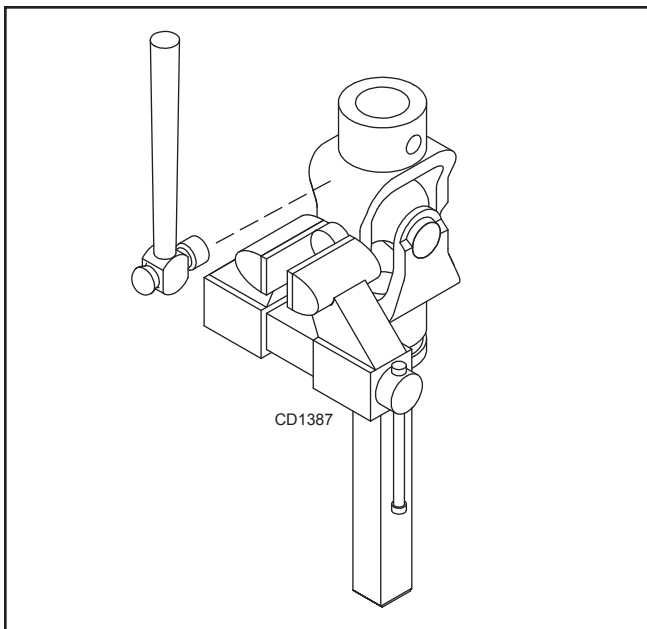

Figure 26.
3. Clamp cup in vise as shown in Figure 26 and tap on yoke to completely remove cup from yoke. Repeat Step 2 and Step 3 for opposite cup.